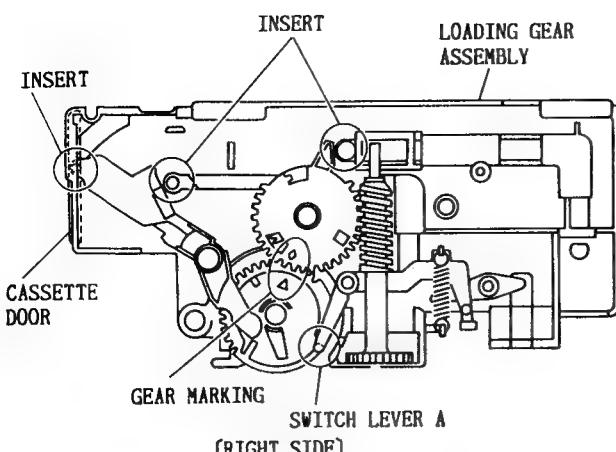

Fig. 5-5
- * When reinstalling the loading gear assembly, check that two (2) bosses of the cassette holder are inserted into the grooves on the right of the chassis holder. (Fig. 5-5)
- * Check that marking (Δ) on the synchro gear and marking (\diamond) on the clutch gear are aligned. (Fig. 5-5)
- * Check that the boss of cassette switch lever (A) is set to the cam of the synchro gear.